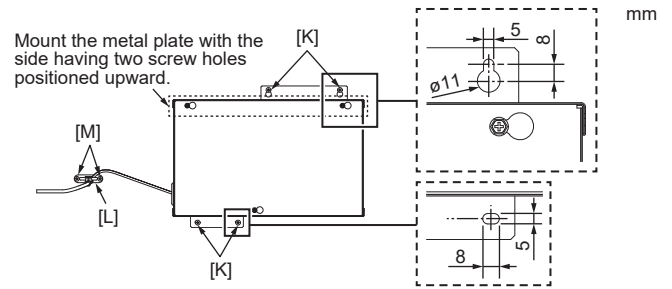

Fig. 4-6
- (1) Secure the Power Supply Interface for Alarm Kit [1] with the 4 screws (procured locally) [K]. (Fig. 4-6)
- (2) Use a level to adjust the Power Supply Interface for Alarm Kit [1] to the horizontal.